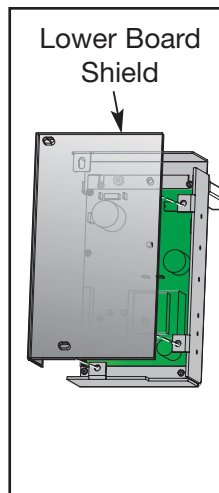

Figure 9
A. Pull out on the lower board shield. See Figure 9.
- E. Place the shield into position and push in (the shield will snap in). See Figure 9.